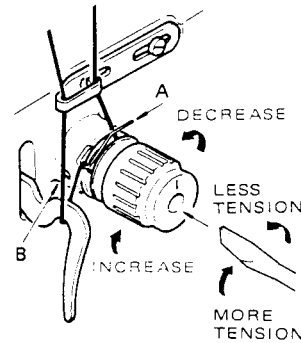

Fig. 32
- Using a large screwdriver in slot of tension stud, turn stud either over toward left to decrease tension, or over to right to increase tension as shown in Fig. 32.
- To set the take-up spring height, loosen screw B, Fig. 32, and turn entire tension assembly either over toward left to lower take-up spring and decrease its movement, or over toward right to raise take-up spring and increase its movement. Firmly tighten screw B.